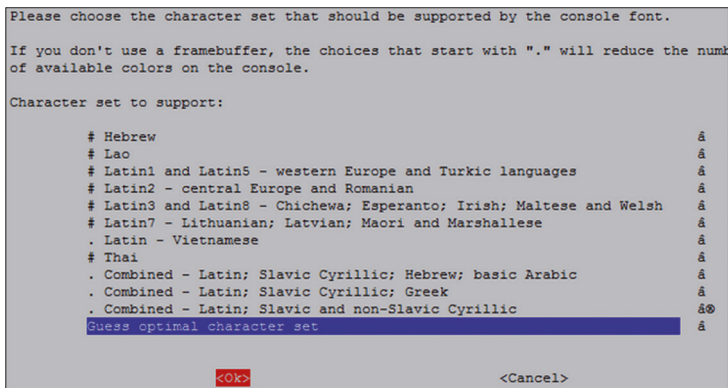

Figure 1.5: Select Guess optimal character set.
- Select **Guess optimal character set** (Figure 1.5)